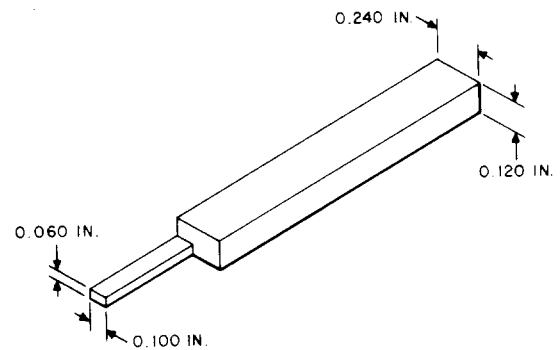

Fig. 3—B27580 Solenoid Adjusting Tool
- (1) Manually press the plunger against the solenoid seat and loosen the 3/16-inch hex nut at the rear of the plunger. Insert the proper size end of the B27580 adjusting tool (Fig. 3) between the rubber washer next to the 1/4-inch nut at the rear of the solenoid and the solenoid body.